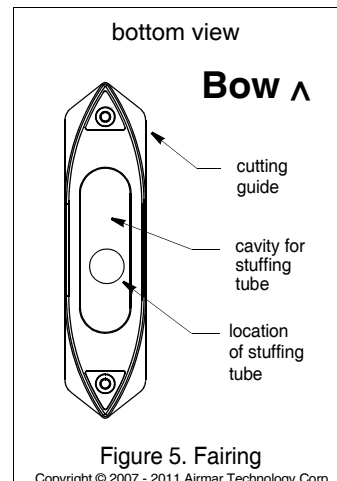

Figure 5. Fairing
6. Check the fit by placing the fairing against the hull. **Be sure the fairing is parallel to the centerline of the boat (keel)**, and the stuffing tube is about 2/3 of the way back in the cavity (see Figure 5). **Hold the fairing on the ends and try to rock it back and forth.** Shape the fairing to the hull as precisely as possible with a rasp or power tool until it no longer rocks.